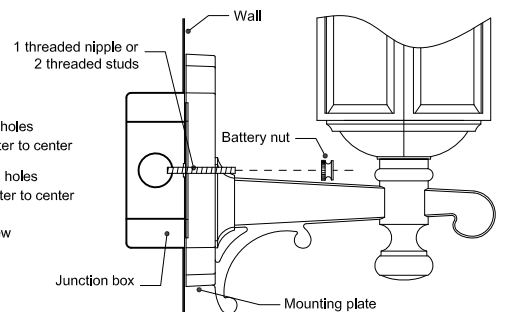

Fig. 4
- 6 - Connect supply leads from junction box to luminaire leads. Use CSA/UL certified wire connectors (not included). Tuck connections into junction box. Slip threaded nipple (single crossbar) or threaded studs (double or round crossbar) into the hole(s) of the luminaire mounting plate (Fig.4). Tighten with provided battery nut(s).